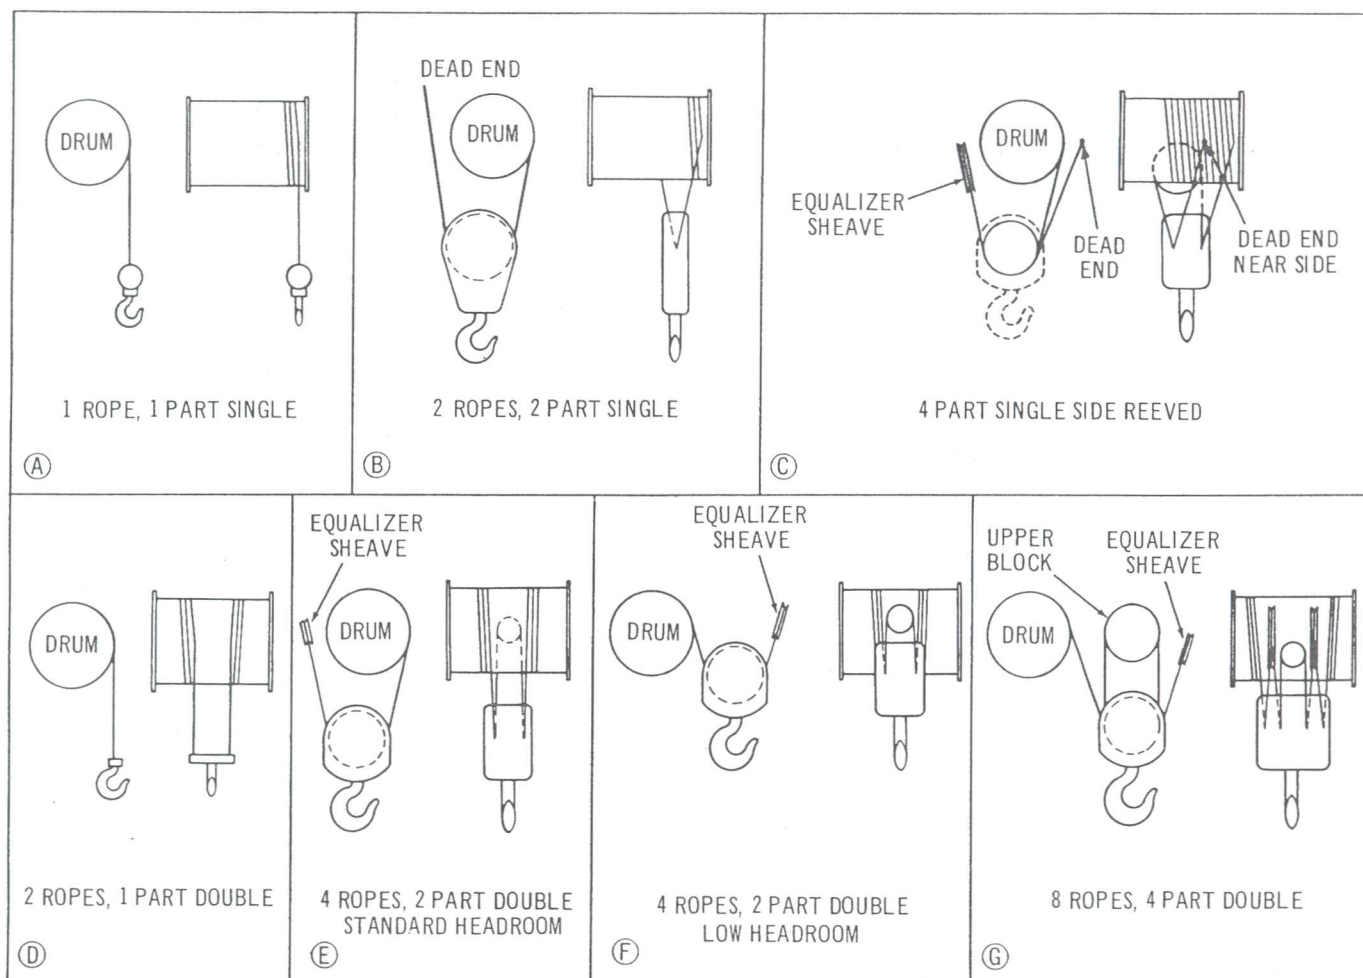
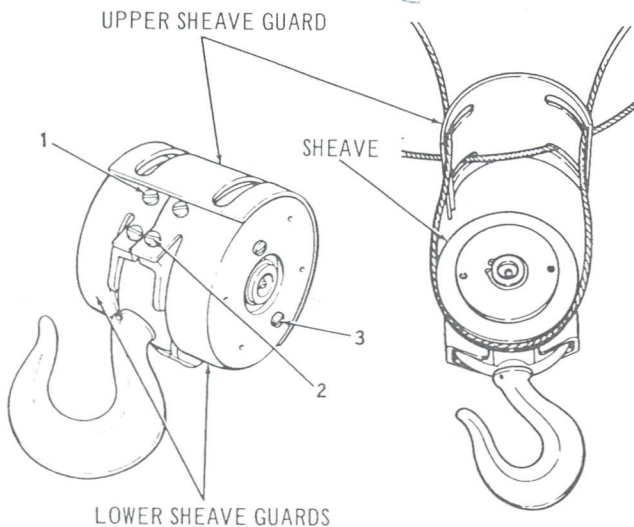

Figure 5-24. Basic Reeving Diagrams
Figure 5-26. Installing Wire Rope in Double Reeved Bottom Block
**REPLACEMENT.** The replacement procedure varies with the particular type of reeving employed for the hoist. The basic reeving diagrams are illustrated in Figure 5-24. One-rope, one-part single reeving (A) and two-rope, one-part double reeving (D) require no special instructions. Instructions for the other types of reeving are outlined separately below.
**TWO PART DOUBLE REEVING.** Proceed as follows to replace a two part double reeved wire rope (see Figure 5-24, E and F, and Figure 5-26):
2. Remove screws (1) and lift off upper sheave guard. Remove screws (2 and 3) and remove lower sheave guards.
**FOUR PART SINGLE SIDE REEVING.** Replacing a four part single side reeved wire rope (Figure 5-24, C) is the same as replacing a two part double reeved wire rope except that only one end of the wire rope is inserted into the drum and the other end of the wire rope is the dead end which is attached to the hanger. The limit switch counterweight rides on the dead end of the wire rope.
**FOUR PART DOUBLE REEVING.** Proceed as follows to replace a four part double reeved wire rope (see Figure 5-24, G, Figures 5-27 and 5-28):